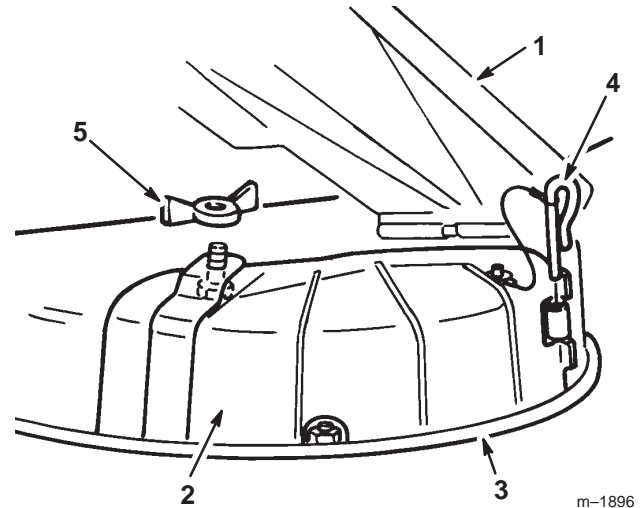

Figure 12
2. Lift the grass deflector and place the discharge cover over the opening onto the lower lip of the mower and slide it into the front hinge (Fig. 12).
3. Slide the hinge pin through the hinge (Fig. 12).
4. Secure the discharge cover to the mower with the wing nut (Fig. 12).